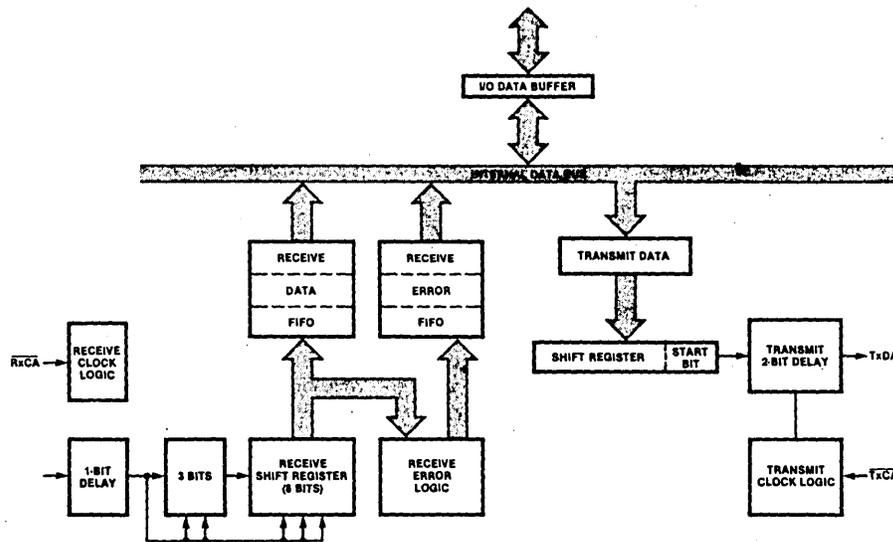

Figure 4. Data Path
**Data Path.** The transmit and receive data path illustrated for Channel A in Figure 4 is identical for both channels. The receiver has three 8-bit buffer registers in a FIFO arrangement in addition to the 8-bit receive shift register. This scheme creates additional time for the CPU to
**Write Registers.** The Z-80 DART contains six registers (WR0-WR5) in each channel that are programmed separately by the system program to configure the functional personality of the channels (Figure 4). With the exception of WR0, programming the write registers requires two bytes. The first byte contains three bits (D0-D2) that point to the selected register; the second byte is the actual control word that is written into the register to configure the Z-80 DART.